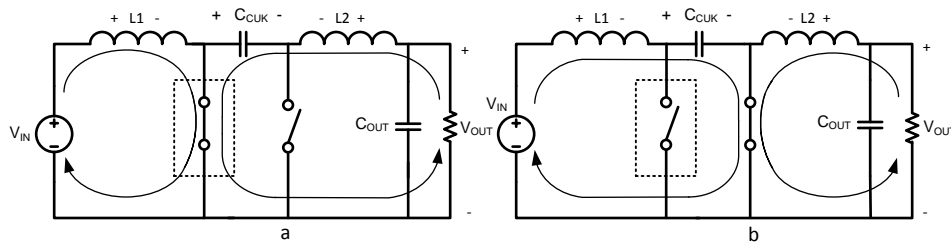
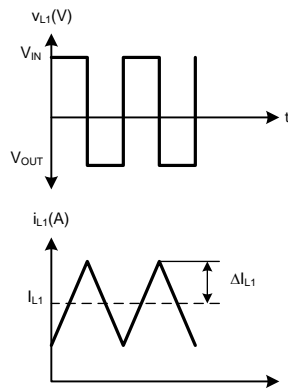
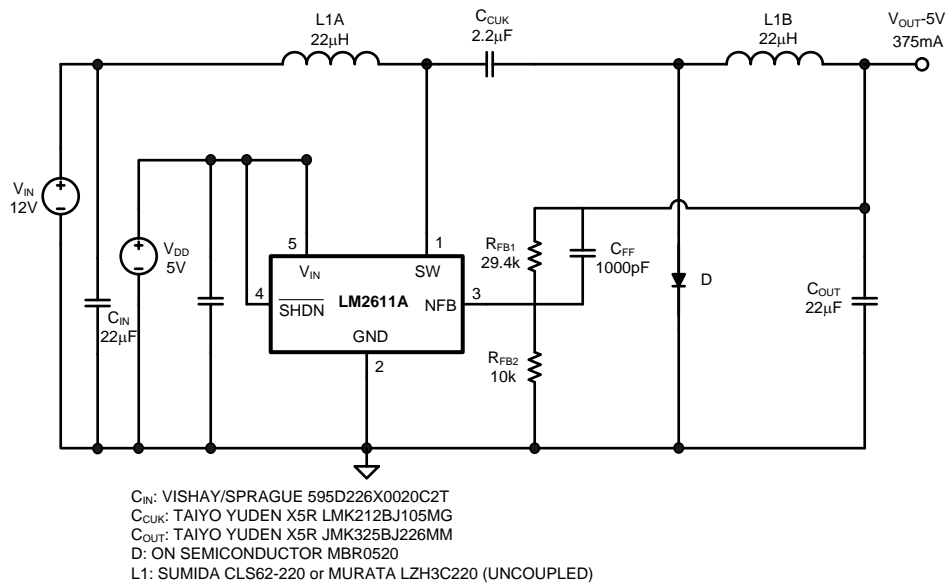

Figure 13. Operating Cycles of a Cuk Converter
Figure 14. Voltage and Current Waveforms in Inductor L1 of a Cuk Converter
Figure 15. Voltage and Current Waveforms in Inductor L2 of a Cuk Converter
The operating states of the Cuk converter are shown in Figure 13. During the first cycle, the transistor switch is closed and the diode is open. $L1$ is charged by the source and $L2$ is charged by C_{CUK} , while the output current is provided by $L2$. In the second cycle, $L1$ charges C_{CUK} and $L2$ discharges through the load. By applying the volt-second balance to either of the inductors, the relationship of V_{OUT} to the duty cycle (D) is found to be:
Figure 14 and Figure 15 show the steady-state voltage and current waveforms for $L1$ and $L2$, respectively. Referring to Figure 13 (a), when the switch is closed, V_{IN} is applied across $L1$. In the next cycle, the switch opens and the diode becomes forward biased, and V_{OUT} is applied across $L1$ (the voltage across C_{CUK} is $V_{IN} - V_{OUT}$).
The voltage and current waveforms of inductor L2 are shown in Figure 15. During the first cycle of operation, when the switch is closed, V_{IN} is applied across L2. When the switch opens, V_{OUT} is applied across L2.
The following equations define values given in Figure 14 and Figure 15:
The input current waveform to a Cuk converter is continuous and triangular, as shown in Figure 14. The input inductor insures that the input capacitor sees fairly low ripple currents. However, as the input inductor gets smaller, the input ripple goes up. The RMS current in the input capacitor is given by:
Like the input current, the output current is also continuous, triangular, and has low ripple (see I_{L2} in Figure 15). The output capacitor must be rated to handle its RMS current: